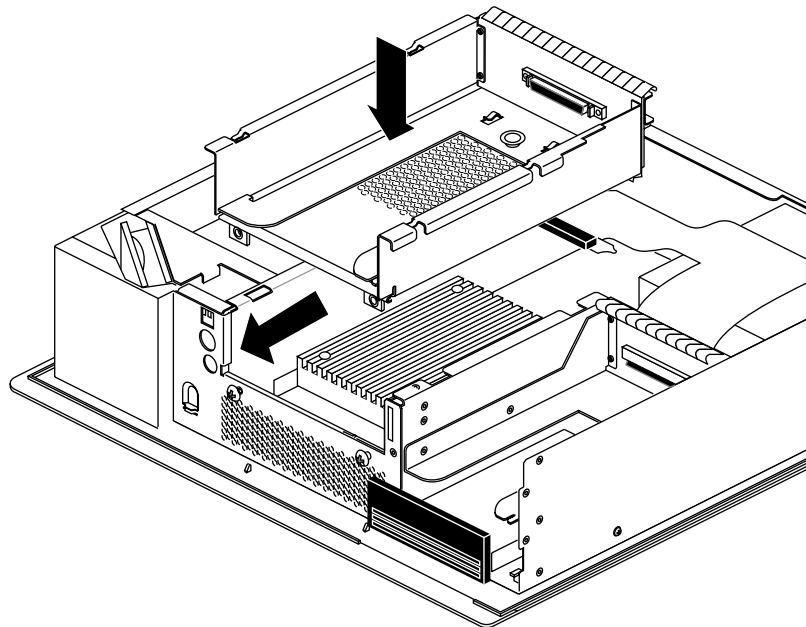

Figure 9-14 Replacing the 5-1/4" Drive Tray
6. Replace the 5-1/4" drive and tray, as shown in Figure 9-14.